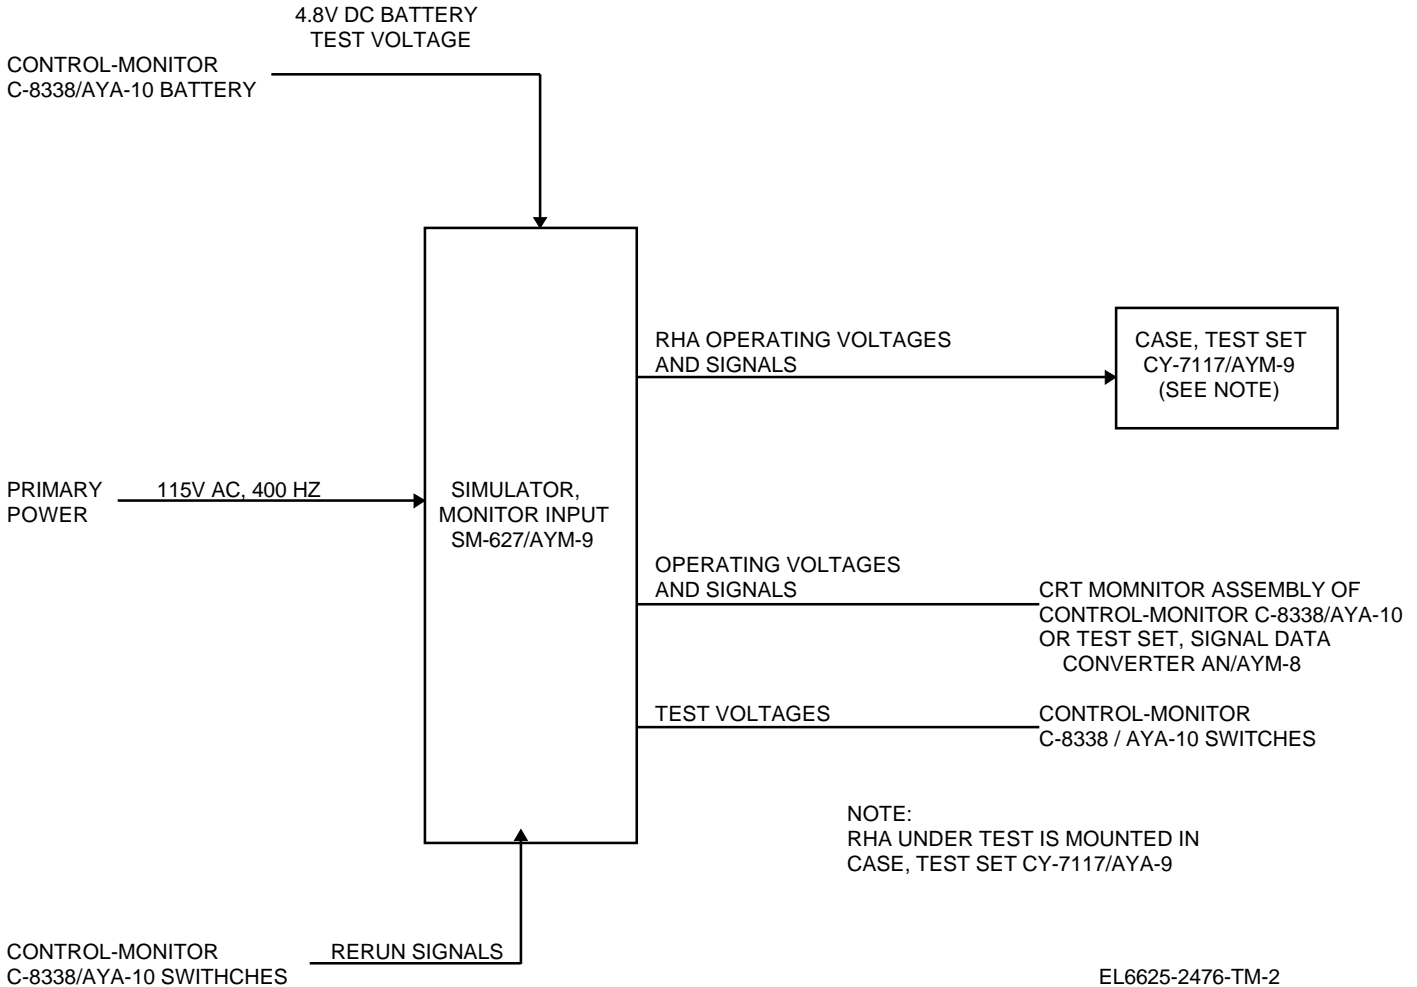

Figure 1-2.
(3) Testing of recording head assemblies (RHA) associated with Detecting Set, Infrared AN/AAS-24; Radar Surveillance Set AN/APS-94D; Camera, Still Picture KA-60C; and Camera, Still Picture KA-76A.
c. Figure 1-2 is a simplified block diagram of Test Set, Control Monitor-Recording Head AN/AYM-9. It shows the primary input and output signals to and from Simulator, Monitor Input SM-627/AYM-9; Case, Test Set CY-7117/AYM-9; and units under test.